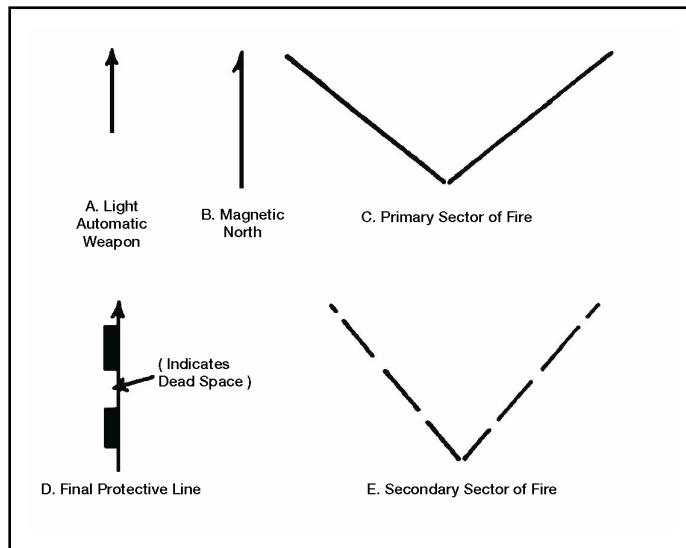

Figure 071-000-0005-1. Symbols
4. Write all necessary information on the range card. Prepare a duplicate range card for the platoon leader. Include all sketches, symbols (figure 071-000-0005-1) and data on both copies.
- (1) Center the machine gun position at the bottom of the sketch.
- (2) Include any prominent natural and man-made features that a target could use to take cover.
- c. Write the following information in the top portion of the range card (figures 071-000-0005-2 and -3):